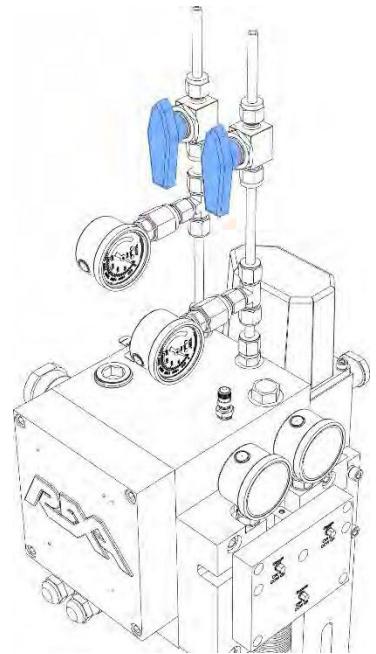

Figure 24: Isolation Valves
- a) Run the module's motor in both directions with both isolation valves, highlighted in blue in Figure 24, open. Run it until there are no more air bubbles seen in the clear return lines.
- b) Close the isolation valve shown in Figure 24 (Extend or Retract) that corresponds to the port that will move the cylinder away from the closest end stop.